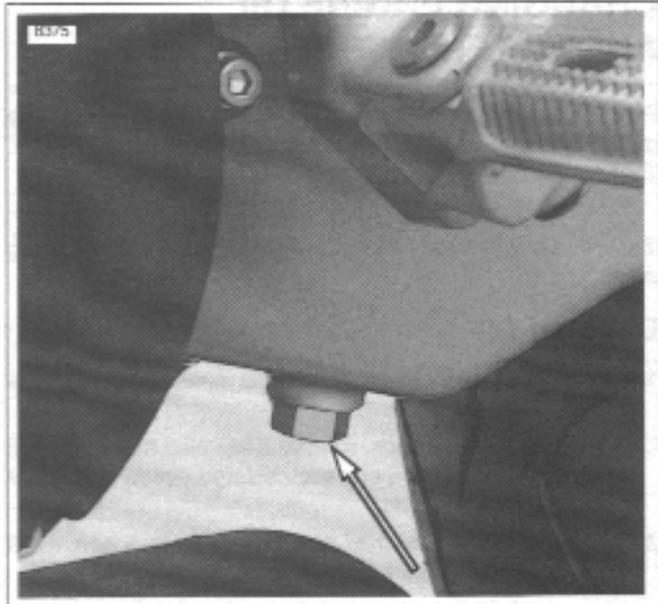

Figure 1-3. Oil Tank Drain Plug
1. See Figure 1-3. Place a suitable container under the drain plug.